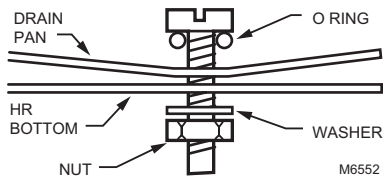

Fig. 8. Installing drain line.
3. Hand tighten the nut. See Fig. 8.